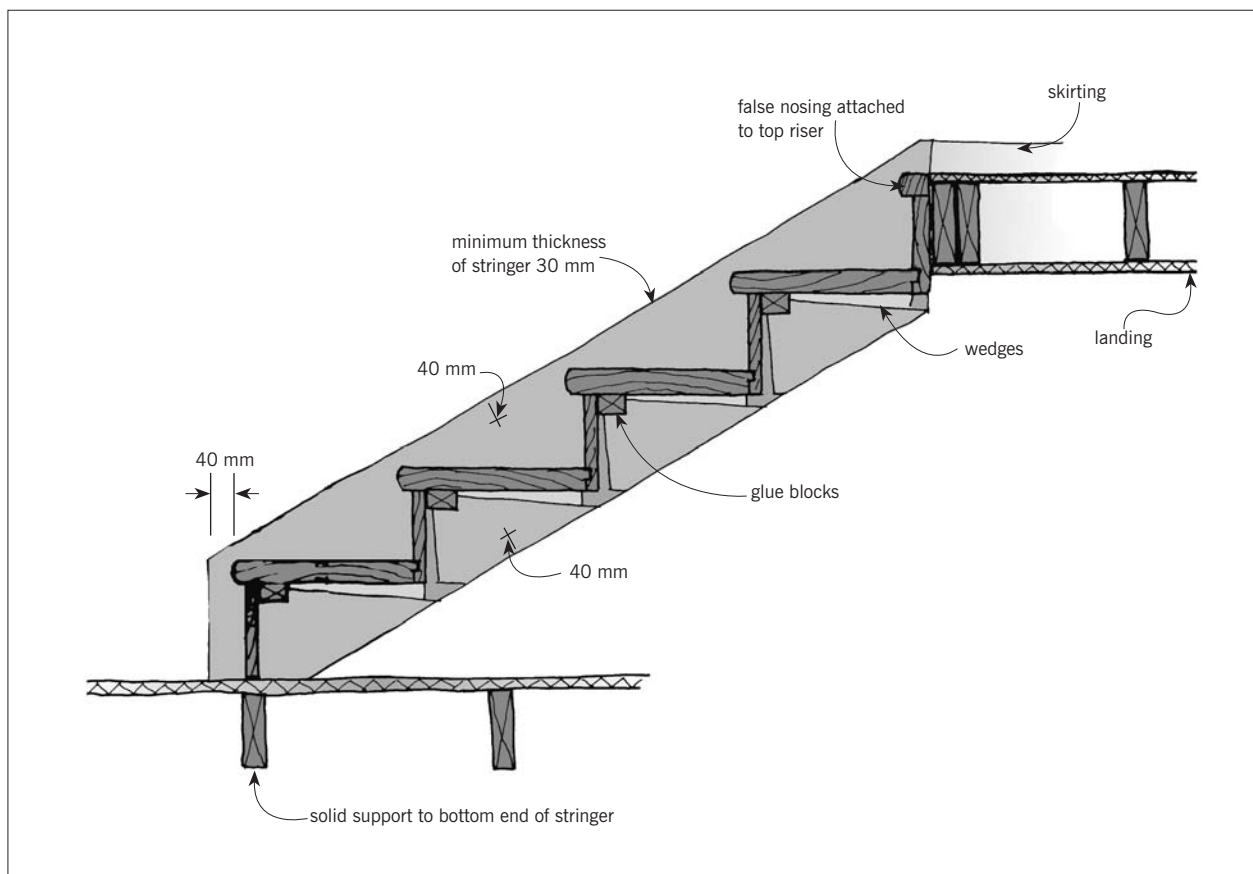

Figure 10. Typical internal timber stairs.
9.0.1 Interior timber stairways are constructed as shown in figures 10 and 11. Solid timber or medium density wood fibre sheet (MDF) may be used in the construction. MDF is normally glued and screwed while solid timber may be nailed and glued.